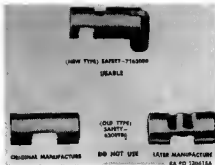

Figure 53. Safeties.
j. *Safety* (Figs. 45 and 53). Check to assure that only the rotary type safety 7162080 is used. Modification Work Order ORD B28-W-6 prescribes the replacement of the old type safety with the new type (Fig. 53). Test safety for positive positioning. Check for burrs and rust and check spring plunger recess and trigger slot for burrs and foreign matter. Refer to paragraph i (1) and (2) below for inspection of plunger assembly for magazine catch and safety.